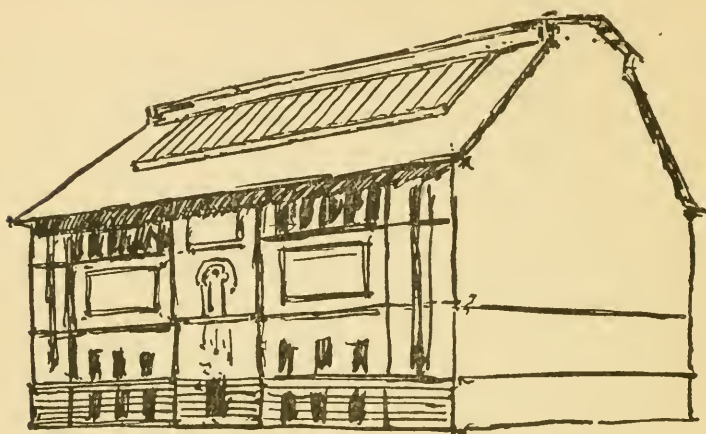

Fig. 5. A Freehand Perspective Sketch.
**Perspective Sketches.** A **perspective** is a representation of a building or object as it appears from a fixed point. These sketches are usually drawn at a small scale, either freehand or mechanically. The lines should be lightly drawn or sketched, as strong lines will be objectionable in the **rendering** or **coloring** of the drawing. The rendering may be in pencil, ink, water-color, or sometimes in crayon, and prepared upon almost any kind of paper (see Fig. 5).